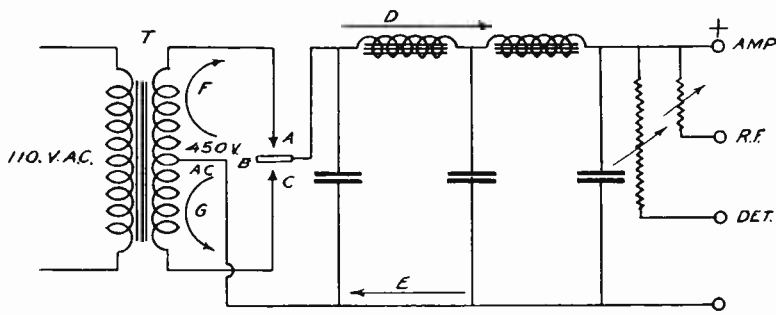
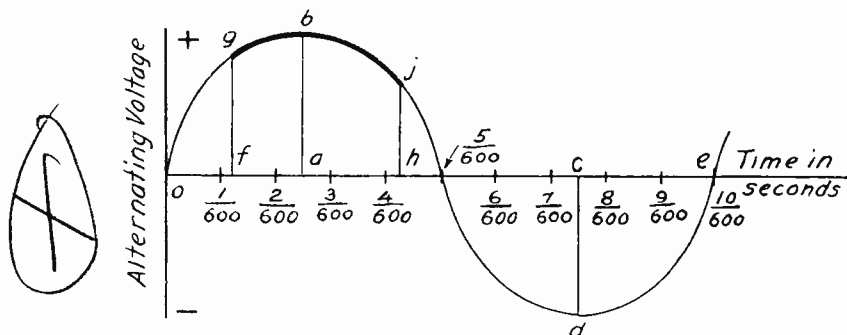
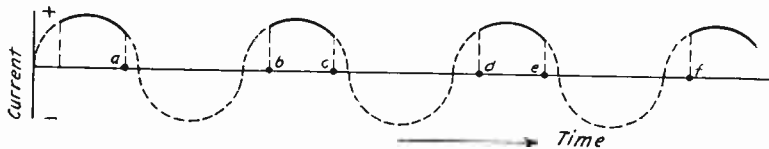

Fig. 22—Complete Circuit Diagram of "B" Eliminator.
Fig. 23—An Alternating-Current Curve.
Fig. 24—A Rectified Alternating Current.
Figure 22 shows a typical circuit of a "B" eliminator. The transformer has impressed on one winding (the primary) the
Fig. 22. On account of this fact, it is necessary to introduce into the tube a gas which can be made capable of conducting electrons from one electrode to the other when the voltages applied to the tube are quite small. Let us first refresh our memory on the nature of an alternating current. Look at Fig. 23. This represents a wave of alternating current.
In Fig. 23 we have shown this whole cycle in the form of a curve or graph. The divisions marked off horizontally represent 1/600th of a second of time, so that 10 of these divisions represent 10/600ths of a second, or 1/60th of a second. The height of this curve at any point above or below the horizontal axis represents the voltage at any instant. For example, between 2/600ths and 3/600ths of a second after the start of the cycle, the voltage has its maximum, say 110 volts, indicated by the length of the line ab. Being above the horizontal line, we say the voltage at this instant is in the positive direction. Between 7/600ths and 8/600ths of a second after the start of the cycle, the voltage is again maximum, but this
time it is in the negative direction, indicated by the line cd, Fig. 23. At the instant  $5/600$ ths after the start of the cycle the voltage is zero; likewise at the end of the cycle, as at e.
current can flow through the tube. So, starting at the beginning of the cycle, as at O, Fig. 23, the voltage is zero, and the gas is not ionized. As time goes on the voltage increases, but still the gas does not become ionized until a certain critical voltage has been reached, which has the value, let us say, indicated by the line fg in Fig. 23. During the part of the
*voltage*, as we call it, is less than the ionizing voltage, which is indicated in Fig. 23 by the fact that the point j is lower than the point g.
Of course, when the voltage is reversed no ionization can occur at all, regardless of the value of the voltage, so that current flows through the tube only during the short interval of time occurring between f and h in the figure. So you see, we have a pulsating current, which flows only for a short time during each cycle, always in the *positive direction*, and which is repeated from one cycle to another. The heavy part of the curve in Fig. 23 has this current varying with time during a single cycle. In Fig. 24 we have indicated the nature of the current over a number of cycles. It is clear that this is a pulsating current, since no current flows during the intervals of time ab, cd, ef, and so on.